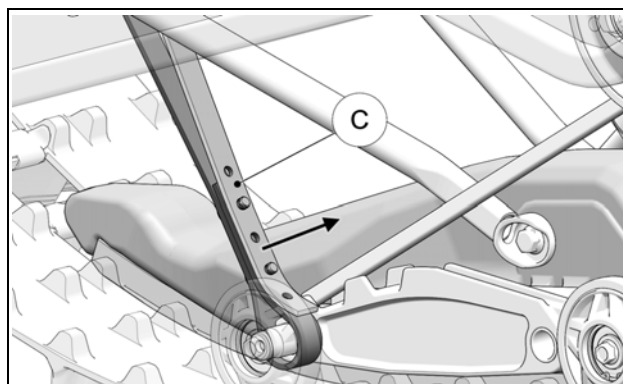

Figure 21
- Lift the end of the strap (C) off of the bolts, taking care that the bolts stay in their position. Figure 21.